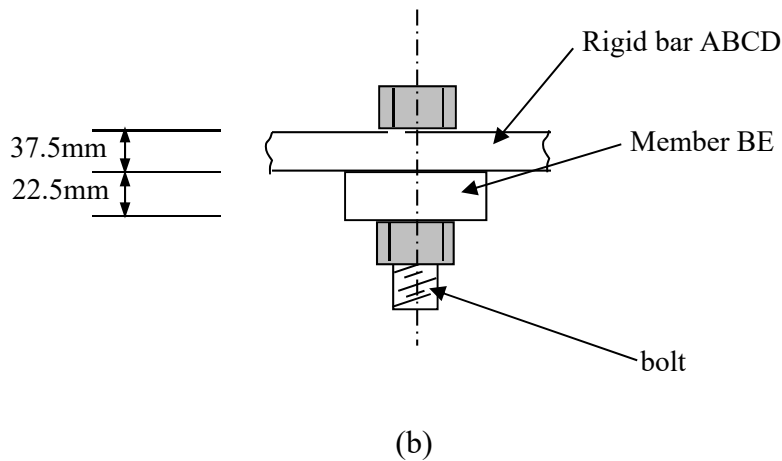

Figure 3/ Rajah 3
2. **Figure 3(a)** shows a rigid bar ABCD which is supported by a vertical member BE and a pinned support at C. The thickness of the rigid bar is 37.5mm. Vertical member BE is made of one bar with rectangular section with width of 120mm and thickness of 22.5mm. Member BE is connected to rigid bar ABCD by means of a bolted connection at B as shown in **Figure 3(b)**. Member BE is made of steel with elastic modulus $E=210\text{GPa}$. The rigid bar is acted upon by two vertical loads 35kN and 100kN at points A and D, respectively. Using the information above, determine: